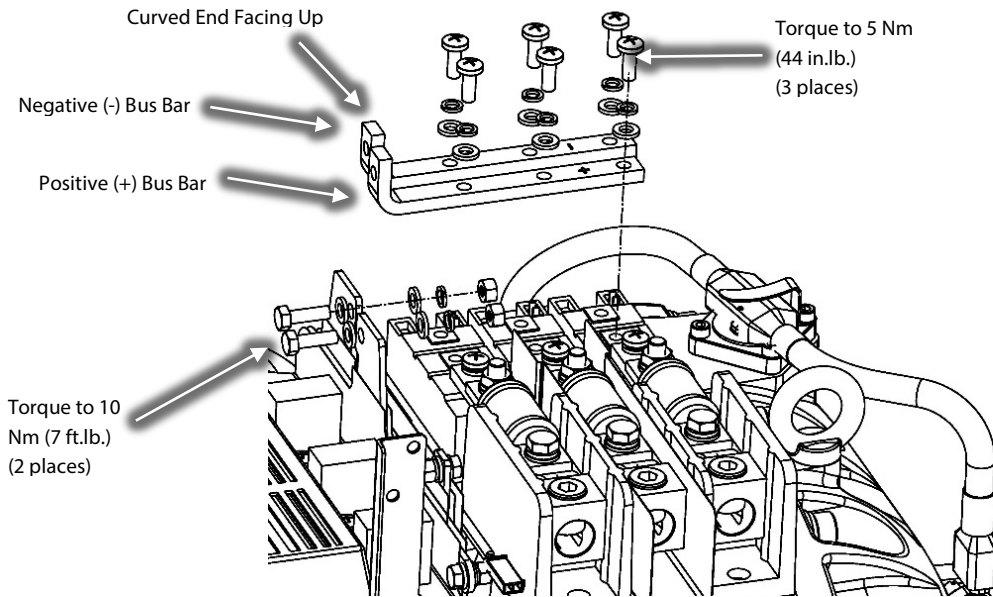
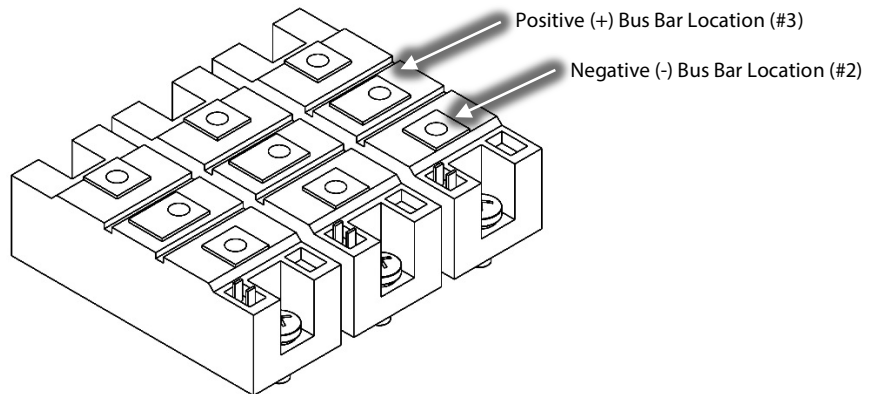

Figure 7 – Bus Bar Installation
Figure 8 – Bus Bar Locations
**NOTE:** The screws should be tightened up again three (3) hours later as the thermal compound spreads out under the mounting pressure.
5. Place the negative bus bar on the diodes. The negative bus bar should be next to the diode pins (aligned with the holes identified as #3 on the diodes). Refer to Figure 7 (Bus Bar Installation) and Figure 8 (Bus Bar Locations).
6. Install the positive bus bar beside the negative bus bar (aligned with holes identified as #2 on the diodes). Refer to Figure 7 (Bus Bar Installation) and Figure 8 (Bus Bar Locations).
7. The curved section of the bus bar should be installed upwards. Refer to Figure 7 (Bus Bar Installation).